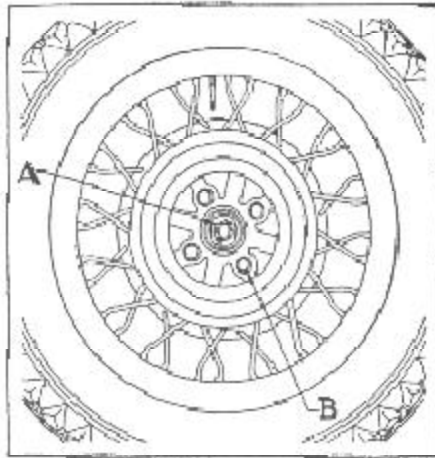

Figure 12
After jacking up the front axle and removing the hub cap, withdraw cotter key holding nut (A), Figure 12. Turn nut (A) to the right until a
All wheels are demountable at the hub by prying off the outside hub cap and removing the cap screws (B), Figure 12, in the wheel mounting plate. When replacing the cap screws, the final tightening locks them to prevent loosening in operation. Be sure the cap screws are drawn down tight.